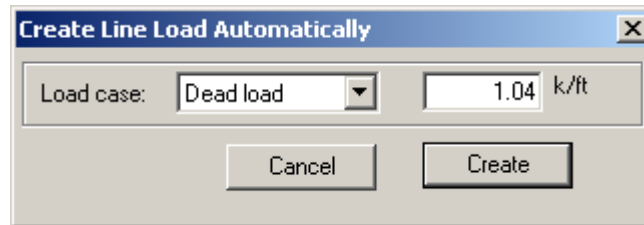

FIGURE 2.4.2-1 LINE LOAD WIZARD DIALOG BOX
3. The dialog box shown in **Fig. 2.4.2-1** opens. Change the value to 1.04 k/ft and click on *Create*.